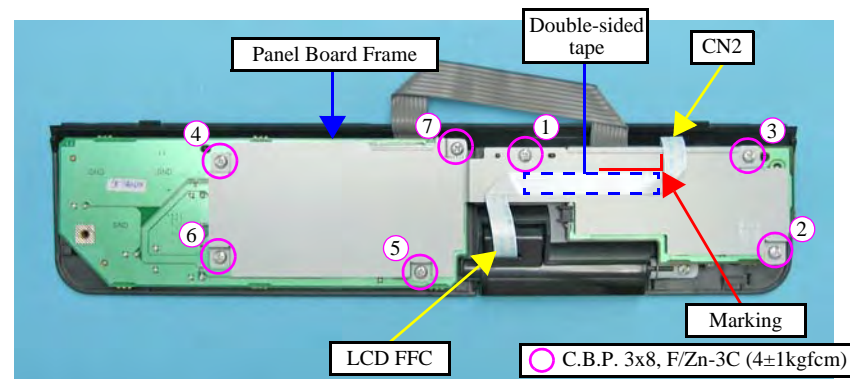

Figure 4-24. Removing the Panel Board Frame
- When attaching the LCD FFC to the Panel Board Frame, make sure to align it to the marking as shown in Figure. 4-24.
- When installing the Panel Board Frame, tighten the screws in the order given in Figure. 4-24.